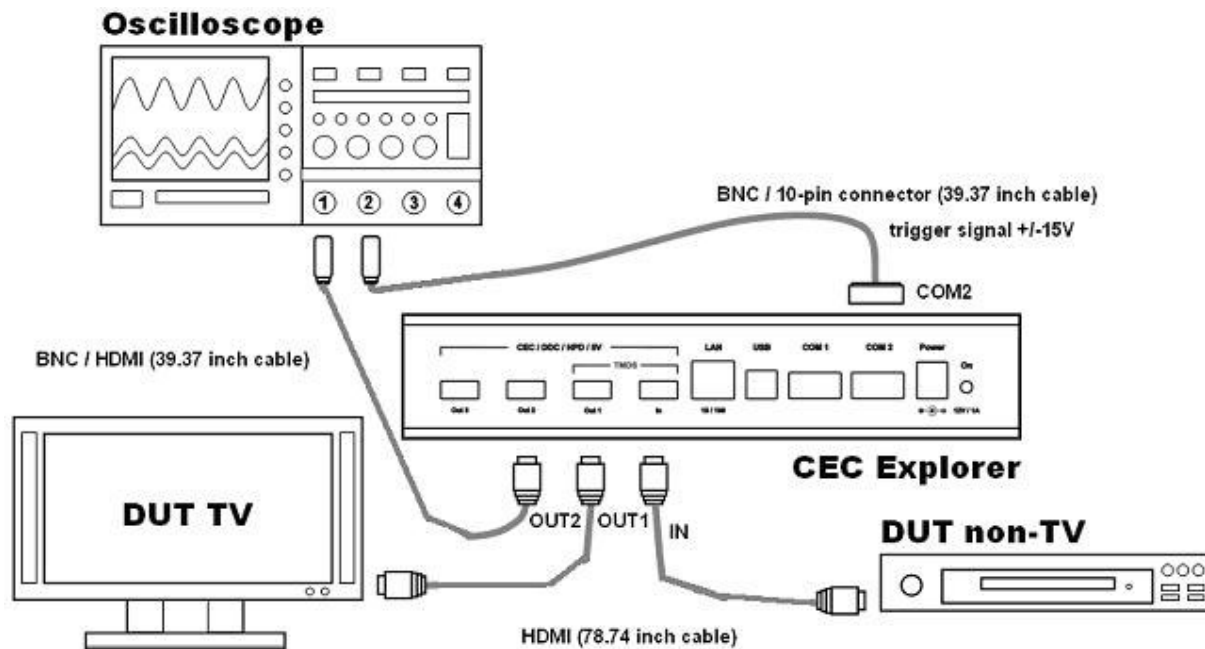

Figure 66: Basic Oscilloscope Configuration
- An oscilloscope (relevant for electrical test cases only) is connected to the OUT2 port (CEC signal to be measured) and the COM2 port (trigger signal for oscilloscope to capture the waveform from OUT2) (Figure 66).